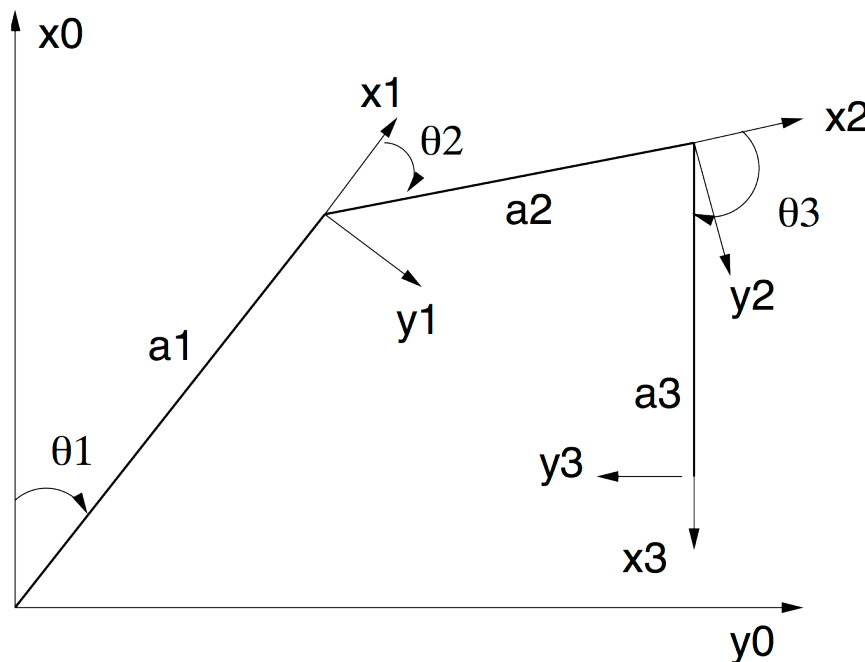

Figure 1: 3-joint planar manipulator.
Task 2.1 (4 points) Planar manipulator: Consider the planar robot manipulator shown in figure 1 with the joint angles θ_1 , θ_2 and θ_3 constrained by the following relation: $\theta_3 = 180^\circ - \theta_1 - \theta_2$.
2.1.1 (2 points): Determine the partial homogeneous transformations ${}^{i-1}T_i$, $i = 1, 2, 3$ for each of the coordinate frames shown in figure 1 and show the planar manipulator transformation ${}^0T_3 = {}^0T_1 {}^1T_2 {}^2T_3$ to be equal to